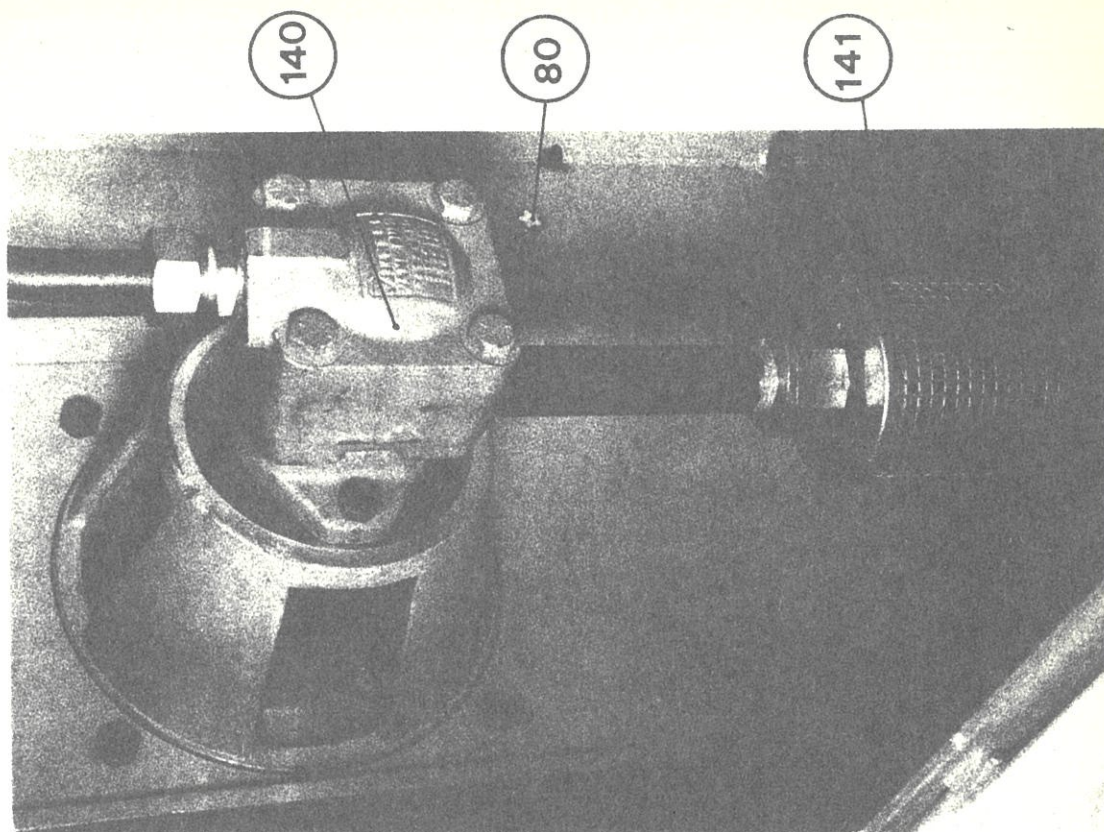

fig. 4
After the first 300 hours of work, the oil in the tank (76) should be drained; unscrew plug (79, Fig. 5), remove filter (141, Fig. 4) from pump (140) and clean.
In addition, lubricate the programmer units (fig. 4), the control valve mechanism (fig.), and the stop-holder rod (58).